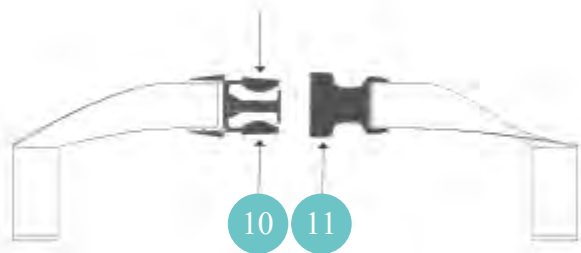

Figure 6
- The buckle is secured by pushing (Ref. 10 of Figure 6) into (Ref. 11 of Figure 6).
- To release the buckle, press both sides of (Ref. 10 of Figure 6).